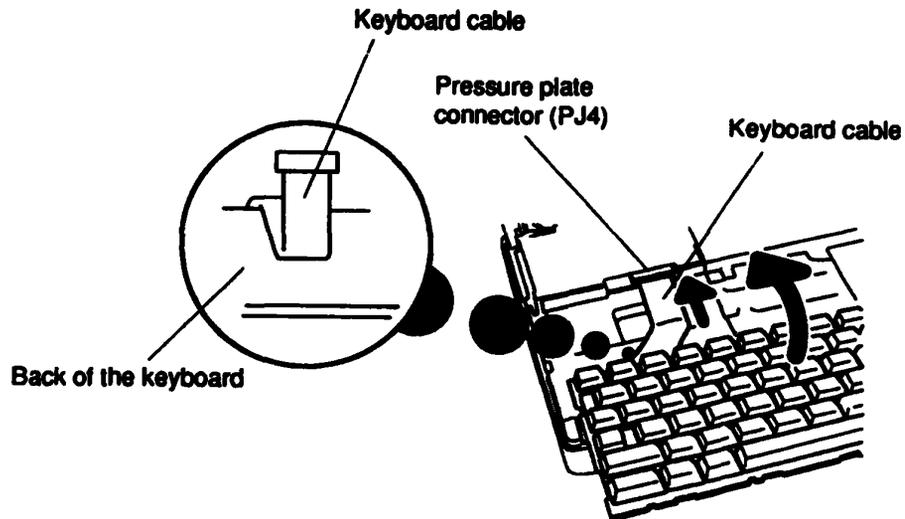

*Figure 4-7 Removing the Keyboard*
To remove the T1900/T1900C's keyboard, follow the steps below and refer to Figure 4-7.
To install the T1900/T1900C's keyboard, follow the steps below and refer to Figures 4-7 and 4-8.
1. Connect the **keyboard cable** to **pressure-plate connector PJ4** on the upper system board (Figure 4-7).